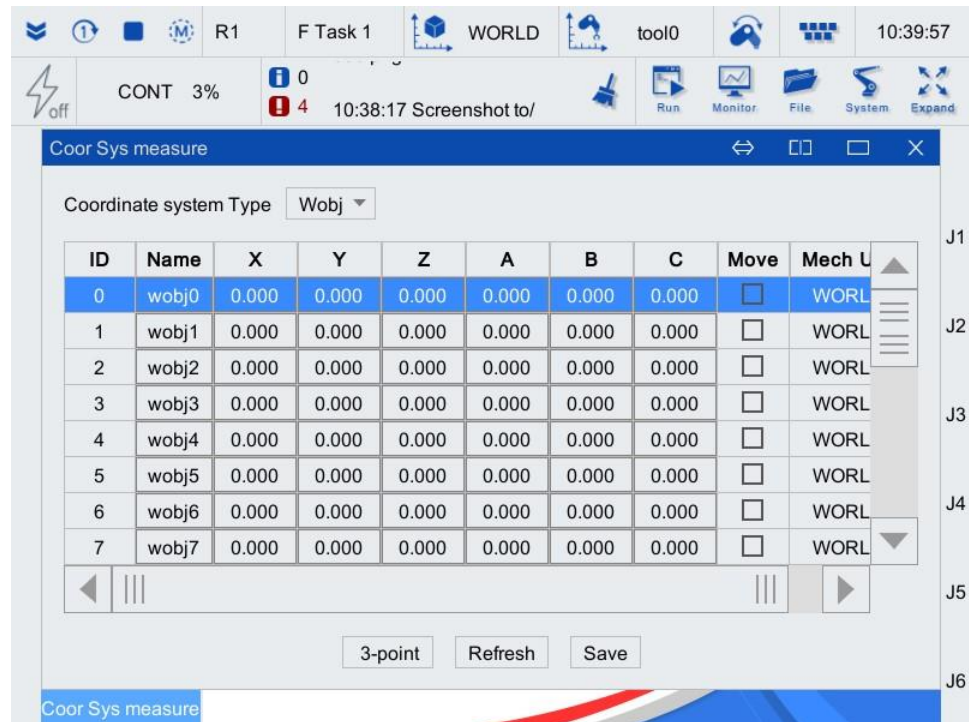

Figure 5-7 Workpiece coordinate system calibration interface
- Step9. Use the "3-point" to calibrate the moving work object coordinate system. In the [Coor Sys measure] interface in Figure 5-7, select "Wobj " in [Coordinate system Type].